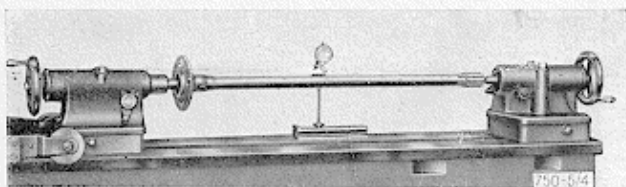

Fig. 4 - Checking that a rear axle shaft is running true
- Check that the rear axle shafts are not bent (Fig. 4); if they are, measure their eccentricity